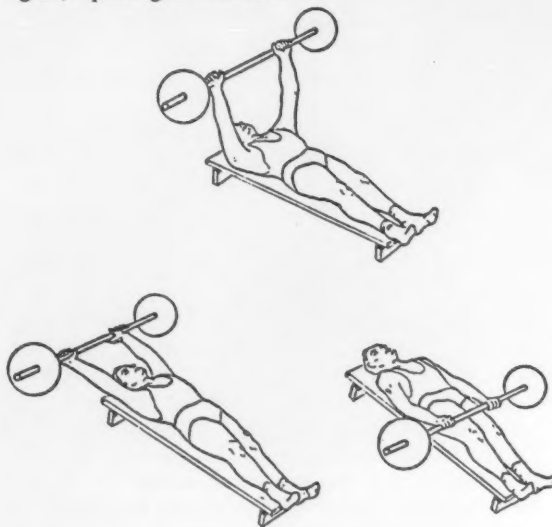

Fig. 9.
• **Pullover** (chest and shoulder exercise) (Fig. 9). Lie on your back on a bench about 9 to 12 inches wide. Hold a barbell above your chest with your palms forward and your arms locked. Keeping your arms locked, lower the weight to a position over your head, at the same time inhaling as deeply as possible. Then raise the weight to the starting position in an arc and lower it slowly to your thighs. Raise the weight again, repeating the exercise.